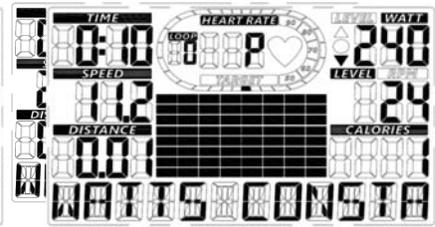
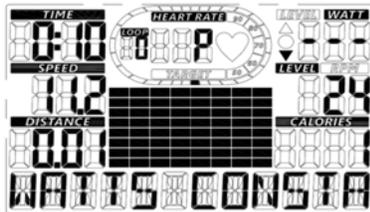

Fig. 30
Fig. 31
- During the workout, watt window displays “▼” to indicate runner speed is 25% lower than the standard value and suggest the runner to speed up (Fig. 30). If the value changes to “---” and with a short beep sound every two seconds, this indicates that the runner speed is 50% lower than the standard value (Fig. 31). If it is still 50% lower after one minute, there will be 2 short beep sounds every second and the console stops automatically after 30 seconds.